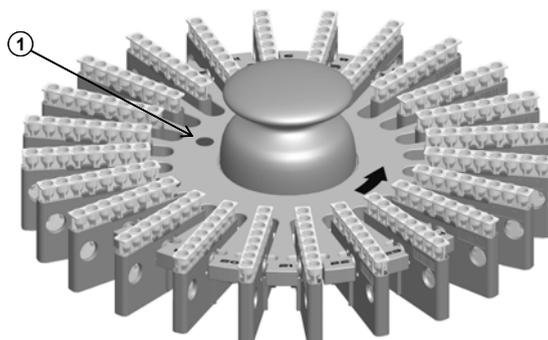

Figure 10: Reflective point for centrifugation speed measuring
- Vertically hold the optical tachometer on the centrifuge Cover, pointing the reflective mark of the *DG Spin* Head shown by Ref. (1) of Figure 10.